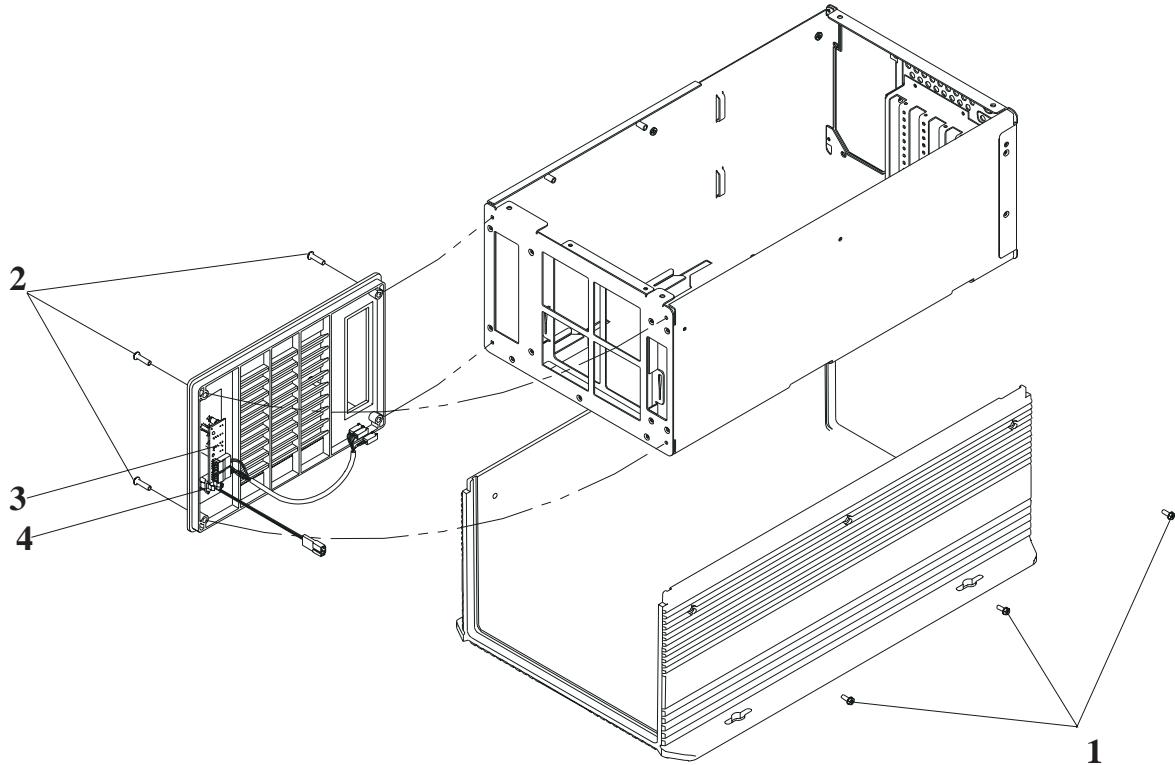

Figure 8-1. Removing and Replacing the LED Assembly
4. Press the retaining clips on each side of the power switch (item 4 in Figure 8-1 on page 8-38), and slide the switch out of the fascia.